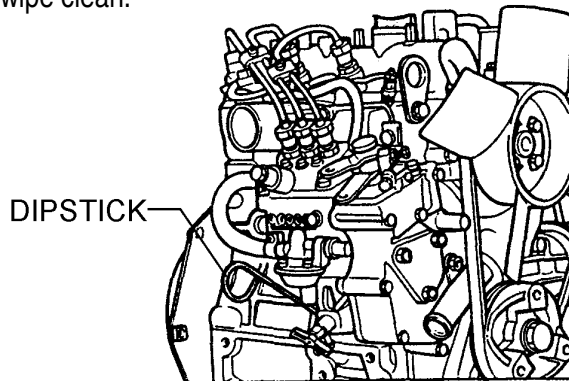

Figure 11. Engine Oil Dipstick Removal
2. Remove the dipstick from its holder (Figure 11) and wipe clean.